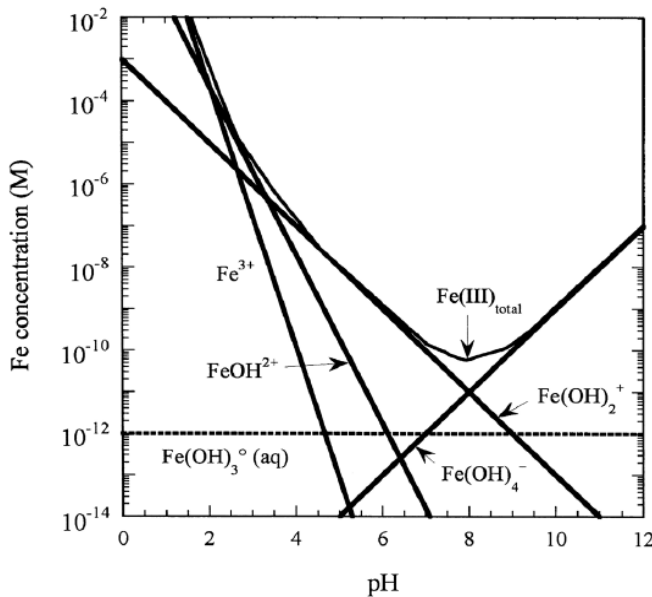

Fig. 1: Iron III speciation in water as a function of pH
3. A drinking water treatment plant treats surface water by coagulation, sedimentation and disinfection before sending it out to distribution. It uses  $\text{FeCl}_3$  as a coagulant (molar mass = 162.2 g/mol), which speciates as shown in Figure 1. Incoming raw water properties are shown in Table 1. Additional chemicals that are available to use during treatment are listed along with their molar mass in Table 2.